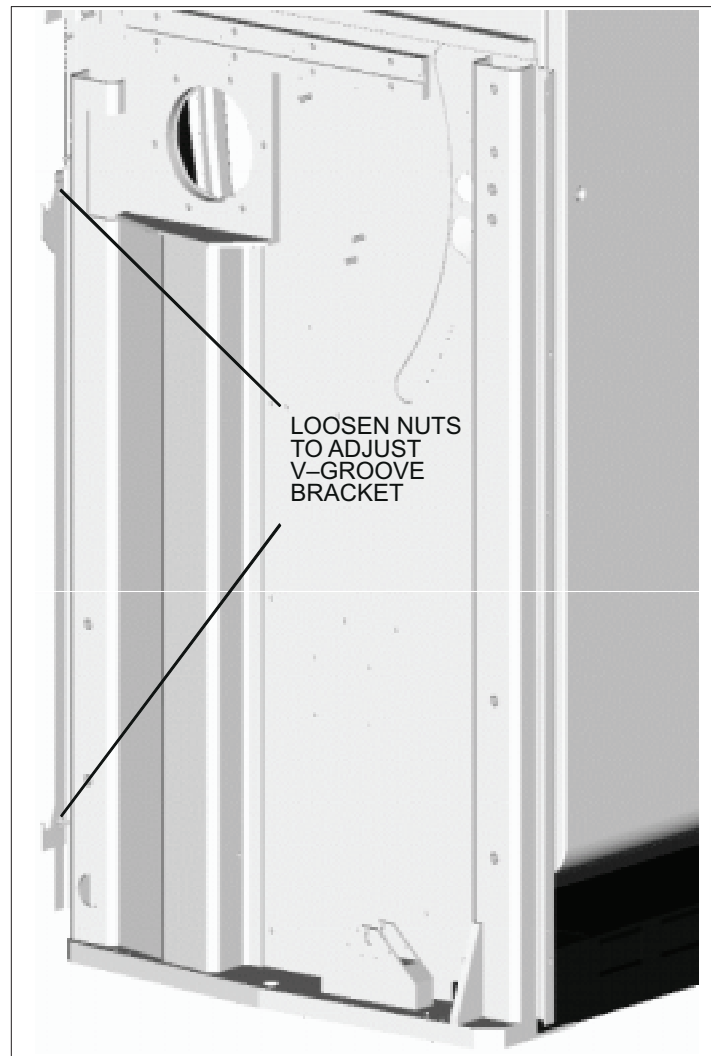

FIGURE 235 V-GROOVE BRACKET ADJUST
9. If the gap is not within the allowable range, raise the Front Upper Cover, remove the Lower Right Column Cover, and adjust the height of the V-groove Mounting Bracket. Refer to Figure 235. Continue to check the clearance between the Lower Right Column Cover and the Front Upper Cover and make sure it is within the allowable range of 0.100 to 0.250 inch.